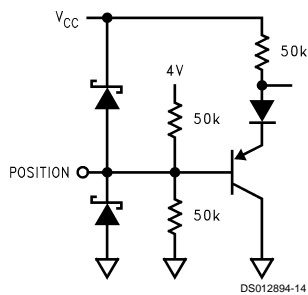

FIGURE 8.
See Figure 8 through Figure 13 for input and output schematics.
**Pin 1. POSITION:** A 0V to 4V DC voltage applied to this pin sets pin 13 (DC OUT) output voltage from 3.65V to 4.05V. See Figure 8 for the input schematic.